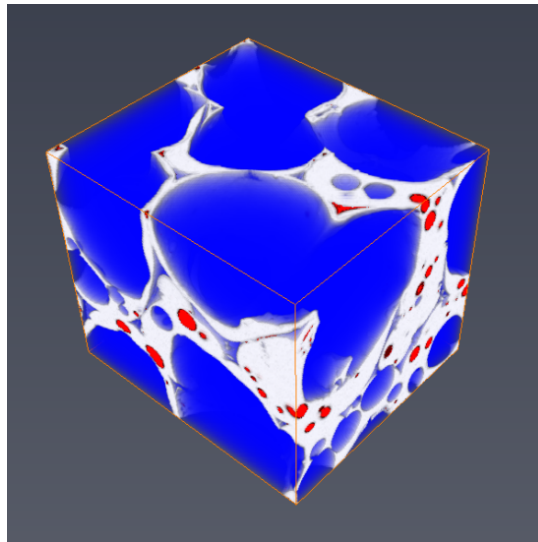

Figure 24.7: Connected Porosity vs. Unconnected Porosity
5. To visualize the connected porosity vs. unconnected porosity: attach a *Subtract Image* module to the output of the *Auto Thresholding* module and to the output of the *Axis Connectivity* module. This will create a label representing the unconnected porosity (floating void). Attach a *Volume Rendering* to this data, and use the seismic colormap. This colormap will colorize in blue the data at 0 (connected porosity) and in red the data at 1 (unconnected porosity) Set the opacity to 0.2: it allows better visualization of the solid phase. (see Figure 24.7).